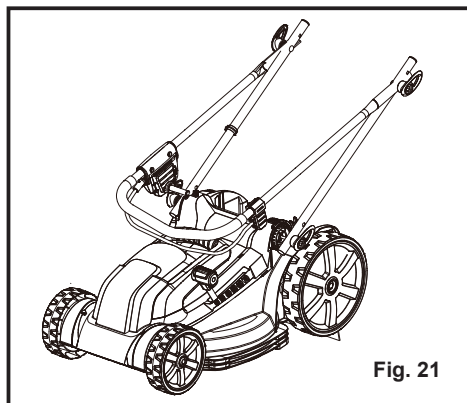

Fig. 21
- Fully loosen the handle locking knobs on the sides of the handle and fold the upper handle down (Fig. 21).